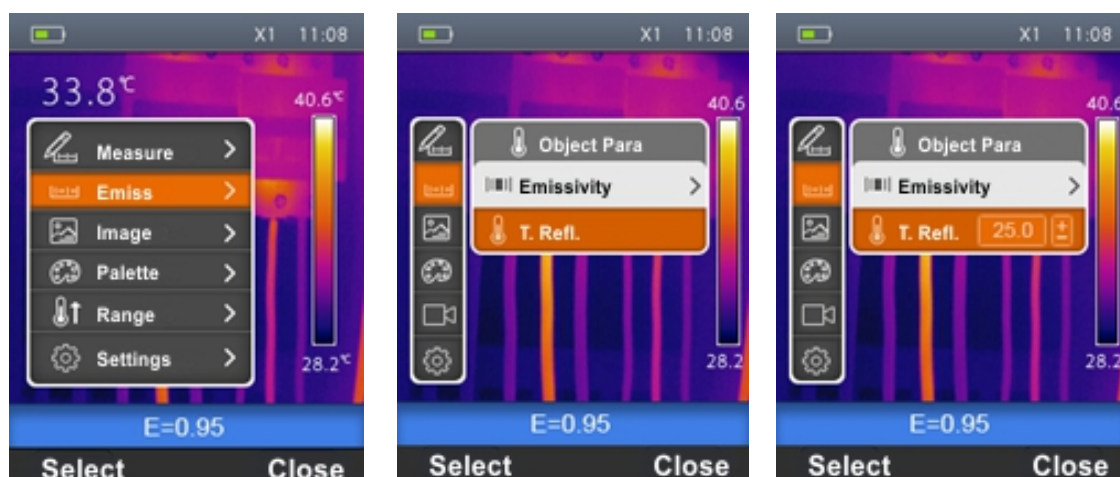

Fig. 18: Setting the Reflected Temperature on the instrument
1. Select the item “T. Refl.” using the keys \oplus or \ominus and press the key “Select”. The screen Fig. 18 – Central part is shown on the display